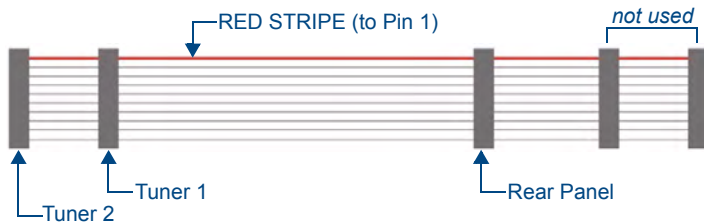
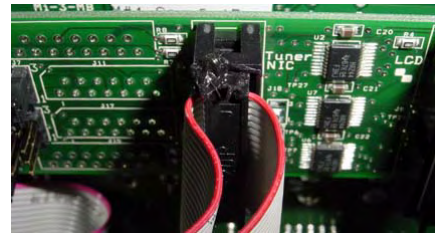
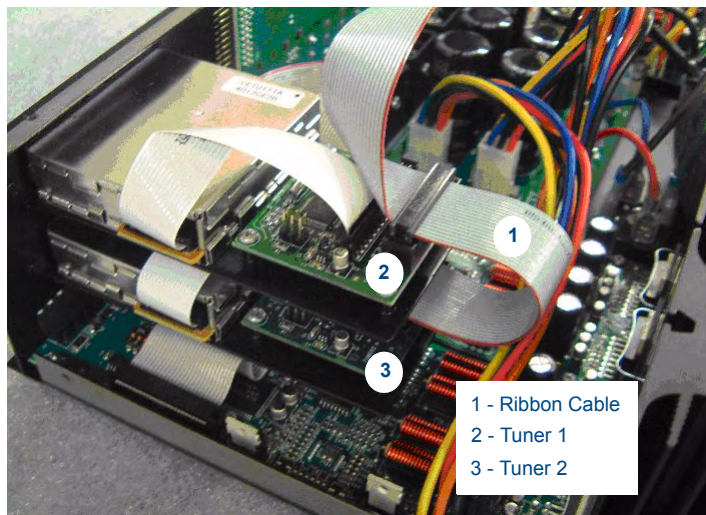

FIG. 2 Tuner Ribbon Cable
FIG. 4 20-Pin Connector and Ribbon Cable
FIG. 6 Dual Tuner Cable Hook-Up
4. Place the Rear Panel connector at the end of the ribbon cable (FIG. 2) on the rear board pin-bus, keeping the red stripe at the top.
- Be sure that both ends of the cable are securely plugged into their respective boards through the 20-pin connectors (FIG. 4).
4. Connect the **Tuner 2** connector on the ribbon cable to Tuner 2 (see FIG. 2).
6. Connect the **Tuner 1** connector on the ribbon cable to Tuner 1 (see FIG. 2).
7. Connect the **Rear Panel** connector on the ribbon cable to the rear board pin-bus with the red stripe at the top (see FIG. 2). The ribbon cable should be connected as shown in FIG. 6 and connected to the Rear Panel as shown in FIG. 4.